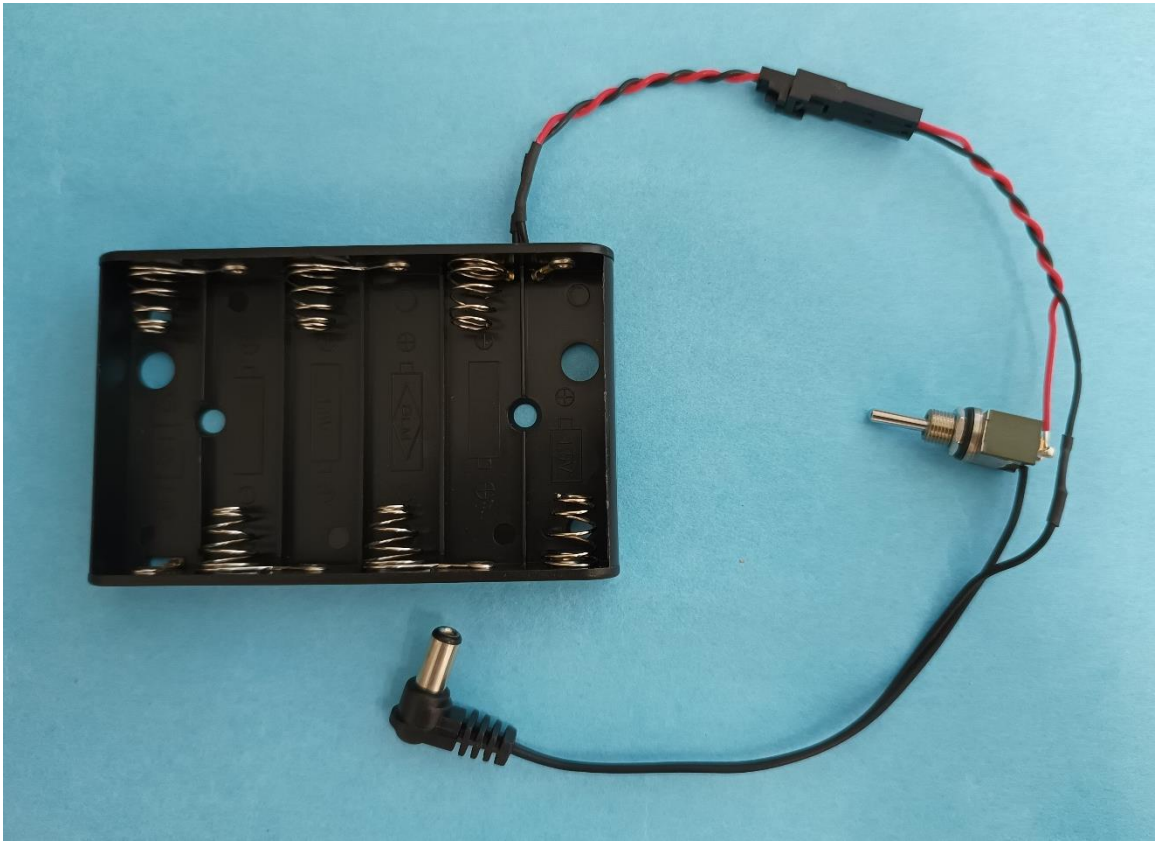

Figure 9. Battery Holder Assembly
4. The battery holder (FIT0141, DFRobot) is supplied with a power jack that will fit the power connector of the Bluno microcontroller. Insert the toggle switch (M2011SD3W01, NKK Switches) into the positive wire of the power cable. Optionally, inline 2-pin connectors can be installed to simplify battery disconnection (Figure 9).